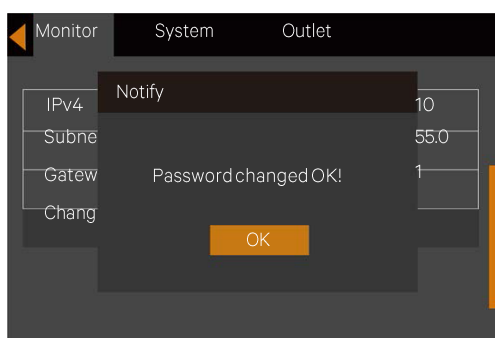

Figure 5-25 Password changed OK
6. After the confirmation, press the key and at this point system prompt a dialog box indicating that the password has been changed successfully see Figure 5-25.